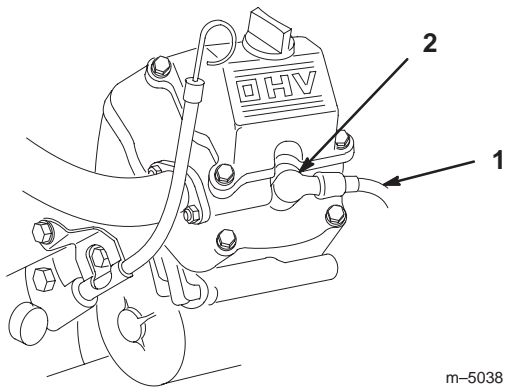

Figure 45
2. Clean around the spark plug(s) to prevent dirt from falling into the engine and potentially causing damage. Pull the wire(s) off of the spark plug(s) (Fig. 45).
3. Push the wire(s) onto the spark plug(s) (Fig. 45).